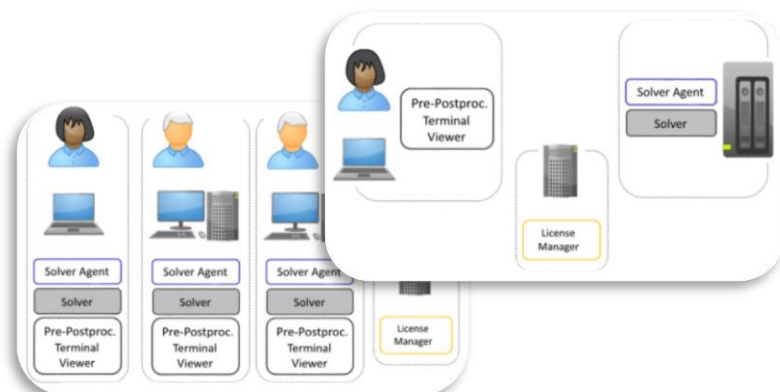

Figure 20: All FlowVision licenses are "floating" licenses, providing full flexibility for the deployment of different modules.
3. High Level of Scalability: FlowVision solver is optimized to operate on large multiple-processor clusters and ensures highest level of accuracy and performance. When FlowVision is run on multiple processors, the **Dynamic Balance** (see Fig. 20) feature evenly distributes the computational workload to increase the overall calculation efficiency and impede single processor overload.